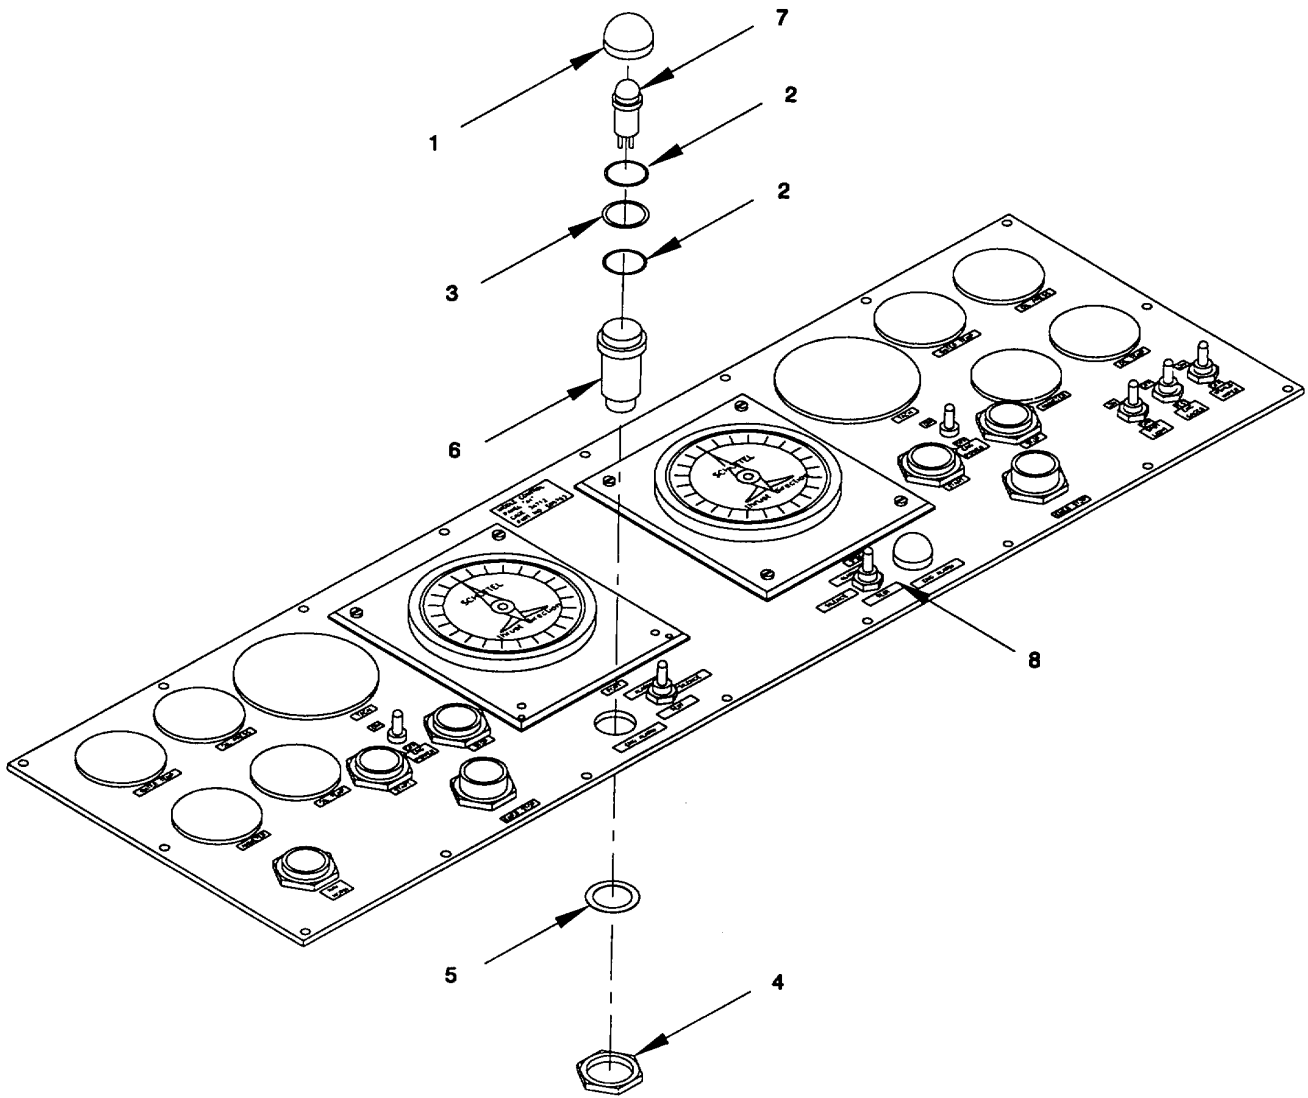

Figure 2-116. Engine Alarm Indicator, Middle Control Panel "A1", Remove/Install.
a. Remove. (figure 2-116)
- (1) Tag and disconnect electrical wiring to indicator base (6). Refer to Appendix G.
- (2) Remove red cap (1) along with two preformed packing seals (2) and washer (3).
- (3) Remove nut (4) and washer (5) securing indicator base (6) to middle control panel (8). Remove indicator base (6) with lamp (7).
b. Install. (figure 2-116)
- (1) Install new indicator base (6) with new lamp (7) in middle control panel (8). Secure indicator base (6) with washer (5) and nut (4).
- (2) Install preformed packing seal (2), washers (3), preformed packing seal (2) and red cap (1) on indicator base (6).
- (3) Reconnect electrical wires, as tagged, to indicator base (6). Refer to Appendix G. Use cable ties and mounting bases to secure any loose wires.